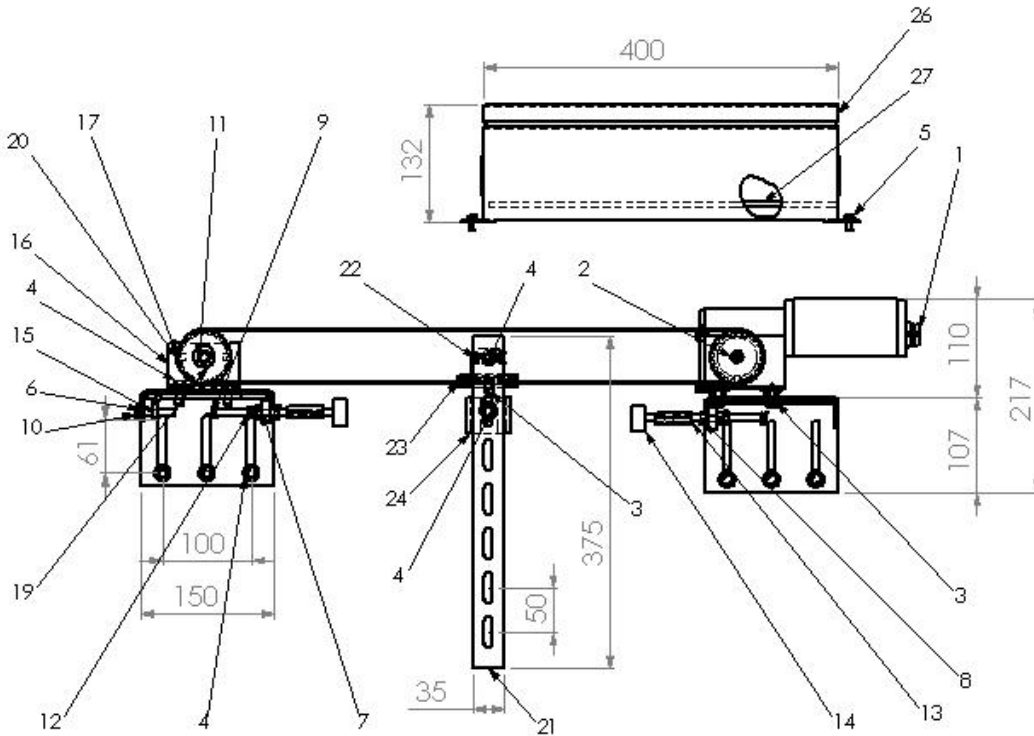

Abb. 13: Dimensions TSG (Front view)
**Parts list** Abb. 13: Dimensions TSG (Front view)